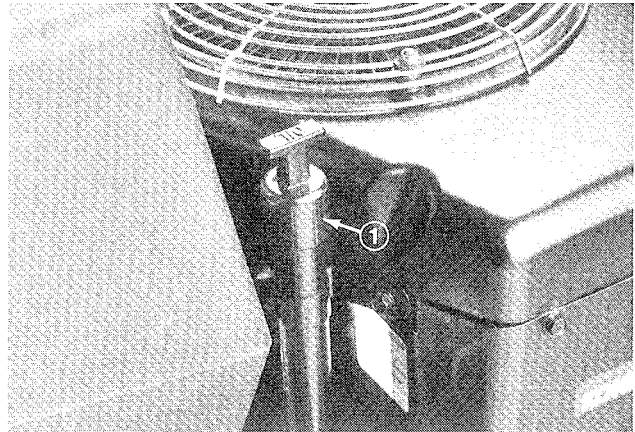

Figure 15
3. Remove dipstick (Fig. 15).
5. Wipe end of dipstick with clean rag and insert it into filler neck. Then remove the dipstick and check level of oil by reading the dipstick (Fig. 15). If level of oil is low, add only enough oil to raise level to “F” mark on dipstick. **DO NOT ADD OIL SO LEVEL RISES ABOVE “F” MARK BECAUSE ENGINE COULD BE DAMAGED WHEN IT IS STARTED.**